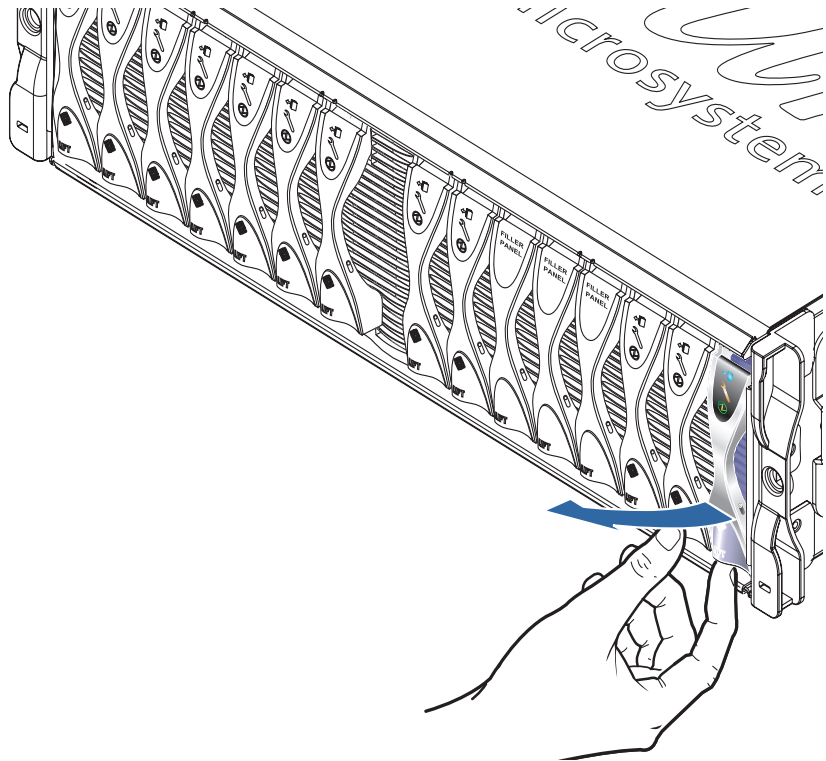

FIGURE 4-2 Disengaging the Blade Locking Mechanism
1. Insert your finger in the pull recess located at the bottom front of the blade lever and pull gently to disengage the locking mechanism (FIGURE 4-2).